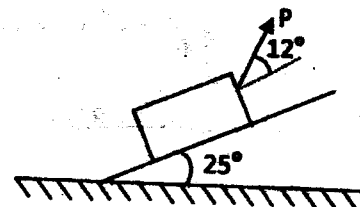

Figure 8
- Q-3 a Explain assumption made for analysis of pin jointed truss. (02)
- b A block of mass 200 N rest on a rough incline plane as shown in Figure 8. If inclination of plane is 25° with ground and $\mu_s = 0.2$, determine the magnitude and direction of the smallest force P required to start the block up the plane. (06)